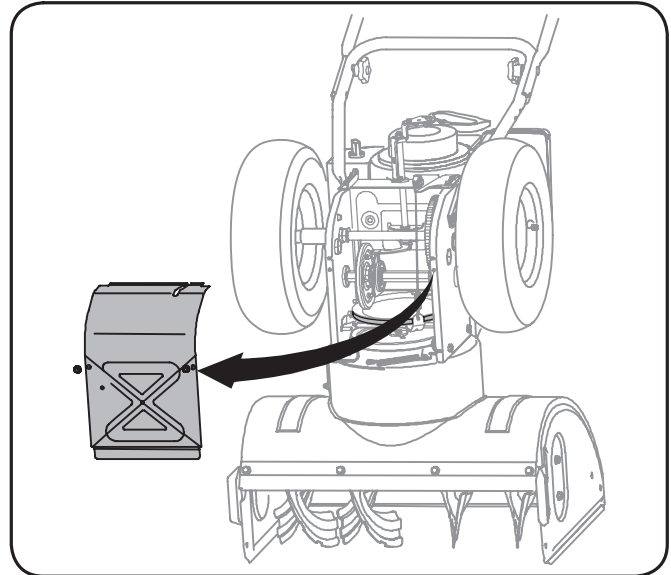

Figure 8-3
4. Remove the frame cover from the underside of the snow thrower by removing four self-tapping screws which secure it. See Fig 8-3.
- Remove the frame cover from the underside of the snow thrower by removing four self-tapping screws which secure it. Refer to Fig. 8-3.